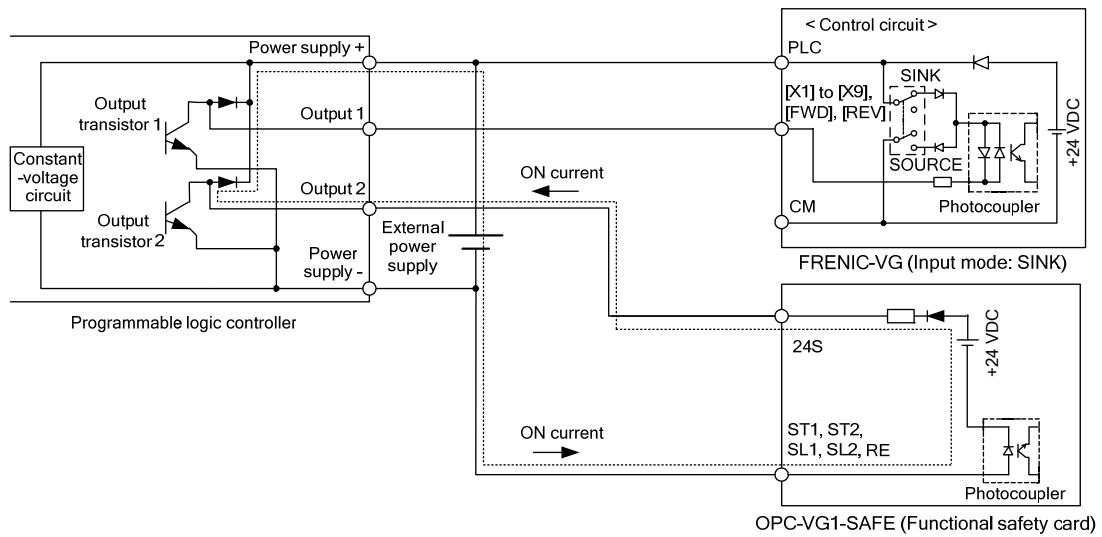
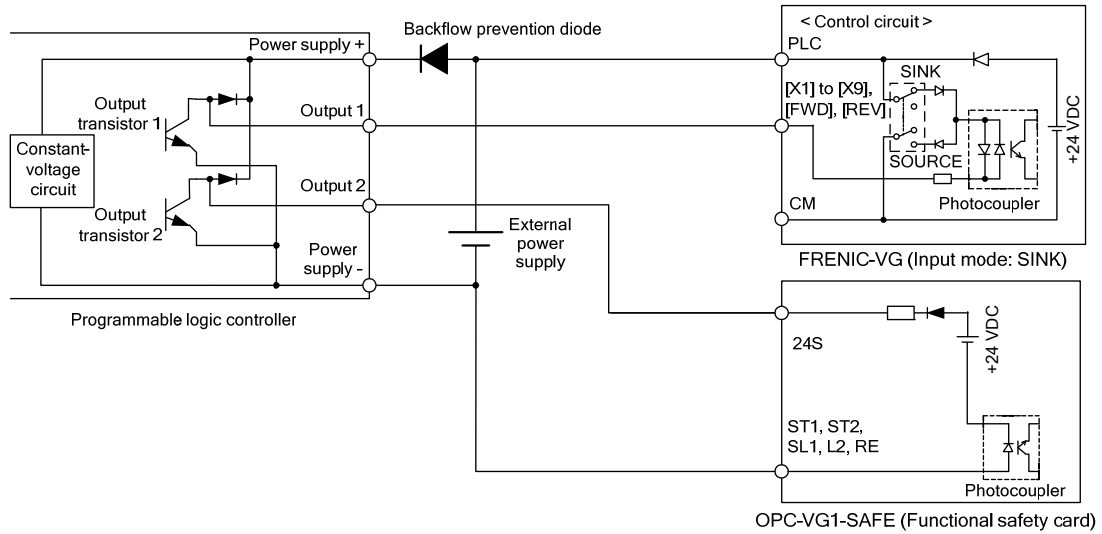
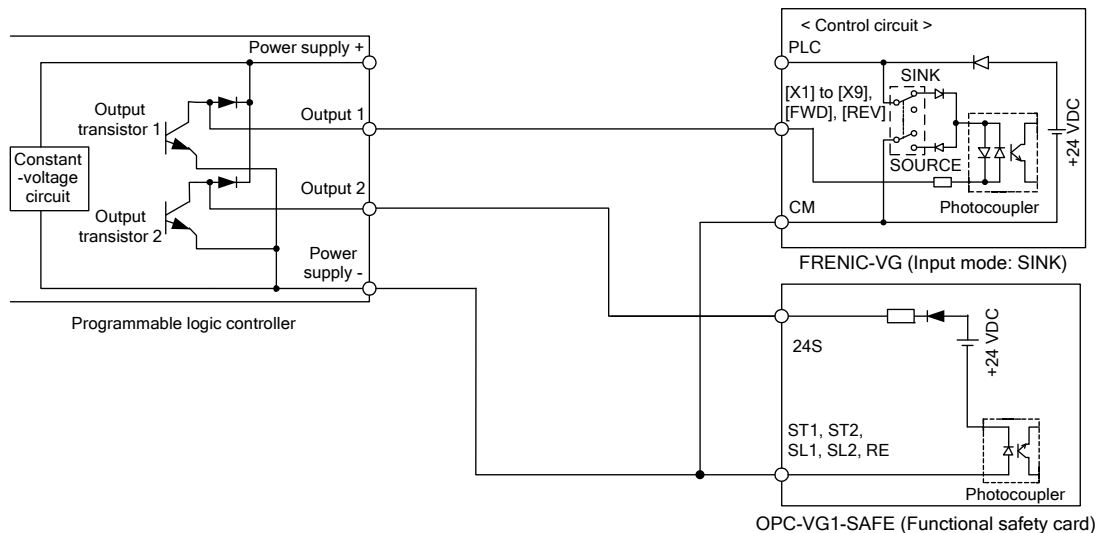

Figure 2.3 Problem Circuit Example
Figure 2.4 Recommended Circuit Example 1
Figure 2.5 Recommended Circuit Example 2
- (*7) When switching the control circuit (SINK) on the FRENIC-VG unit and the digital input terminals (SOURCE) on the functional safety card ON and OFF with the programmable logic controller (PLC), making wiring as shown in Figure 2.3 may not switch off digital inputs on the functional safety card. Connect a backflow prevention diode as shown in Figure 2.4 or make wiring without using an external power supply as shown in Figure 2.5.